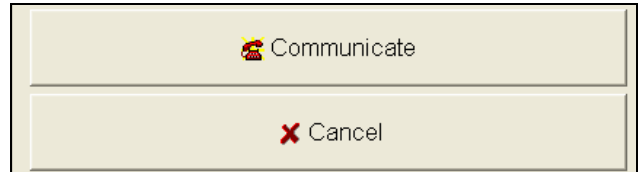

Figure 15.0.4
3. Next click on the **Communicate** button at the bottom of this screen (Figure 15.0.4).